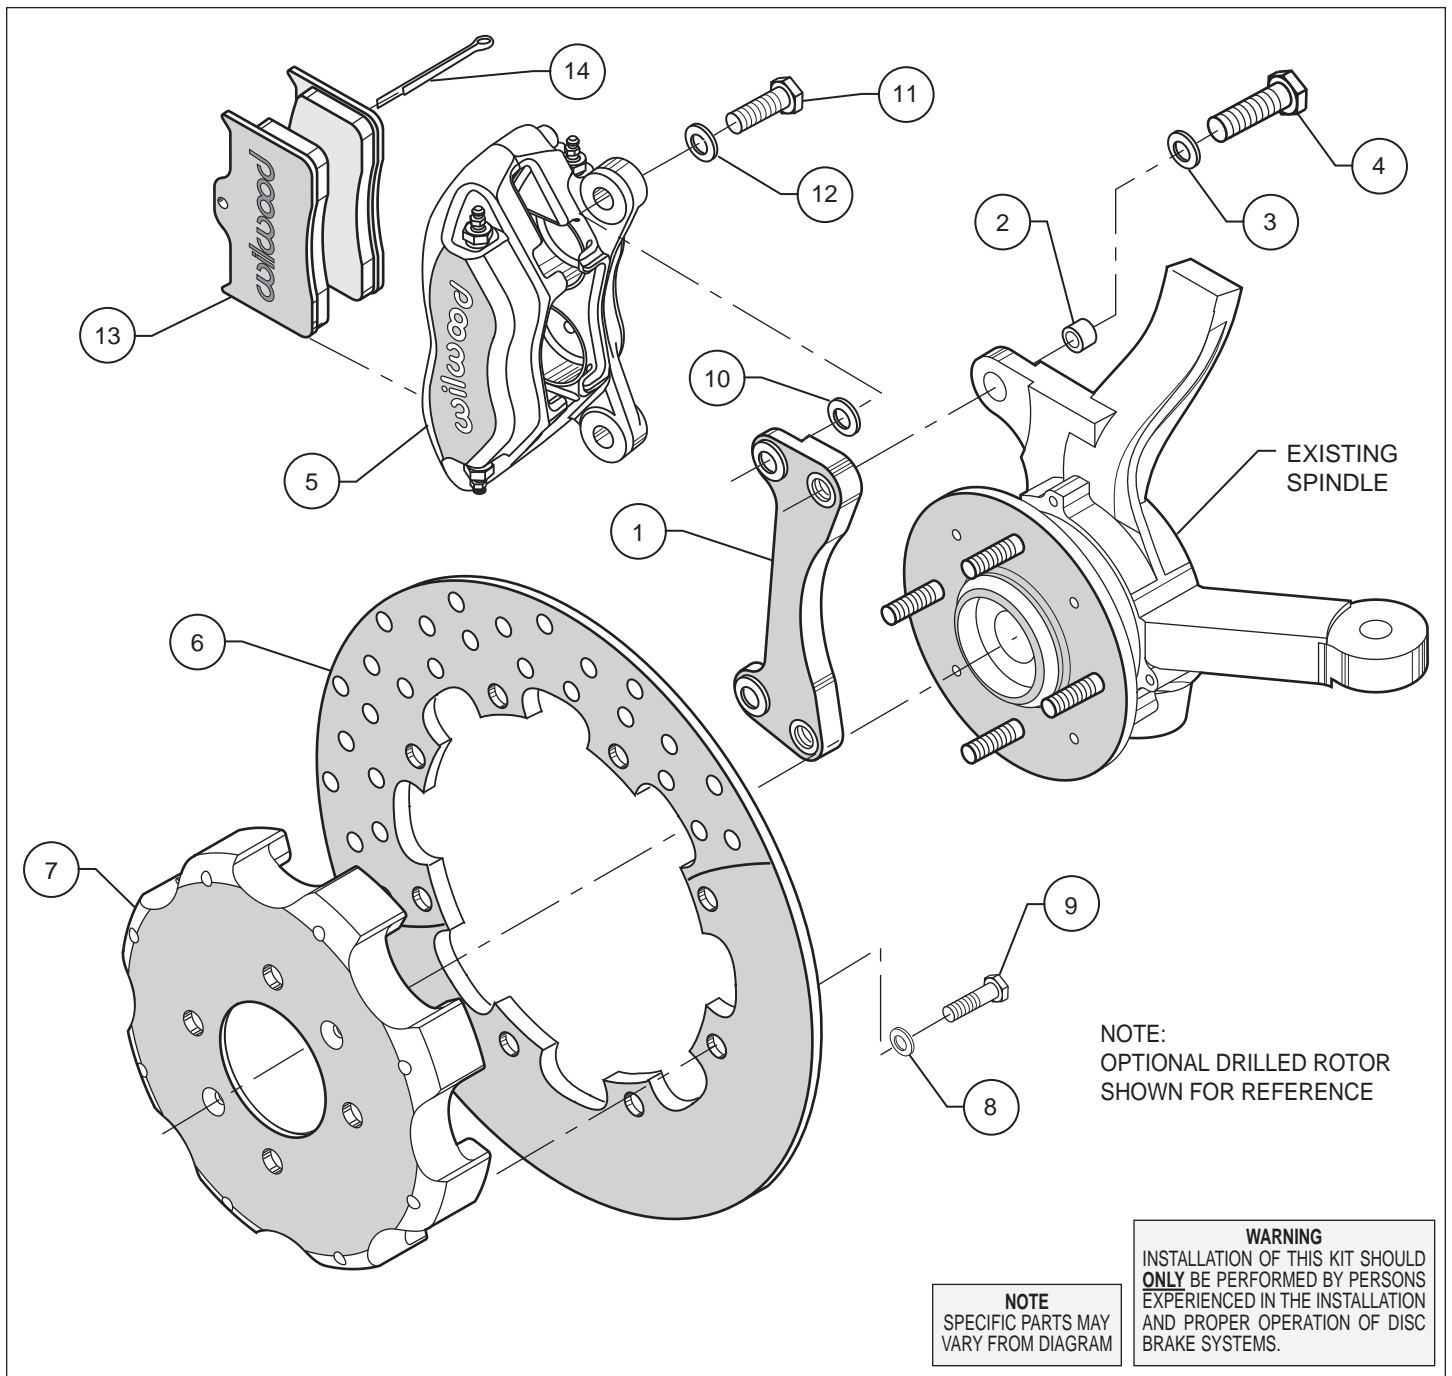
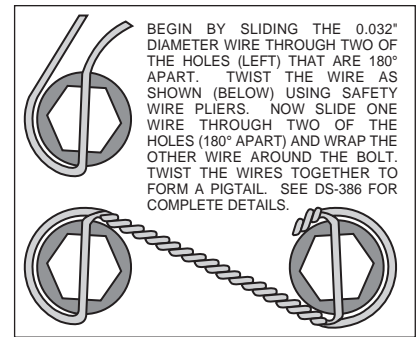

Figure 3. Typical Installation Configuration, Left Hand Application Shown
Figure 4. Safety Wire Diagram
- Insert one sleeve (2) each into the holes on the top and bottom of the spindle “ears” where the OEM caliper bracket was removed. Apply red *Loctite*® 271 to the caliper mounting bracket bolt threads (4) before installation of the caliper mounting bracket (1). Install the caliper mounting bracket (1) with the threaded inserts and the beveled bolt holes facing the outside of the vehicle. Slide bolt (4) through washer (3) into the previously installed sleeve (2) from the backside of the spindle. Finger tighten. Repeat for the lower mounting hole. Torque bolts to 40 ft-lb. **NOTE:** Be sure the heads of the caliper bracket (1) insert nuts are facing outward toward the wheel.
- Attach the hat (7) to the rotor (6) using washers (8) and bolts (9) as shown in Figure 3. Using an alternating sequence, apply red *Loctite*® 271 to the threads and torque bolts to 25 ft-lb. For an added measure of security, the bolts may be safety wired using standard 0.032 inch diameter stainless steel safety wire as shown in Figure 4. Please refer to Wilwood’s data sheet DS-386 (available at [www.wilwood.com/Pdf/DataSheets/ds386.pdf](http://www.wilwood.com/Pdf/DataSheets/ds386.pdf)) for complete safety wire installation instructions. Slide the rotor/hat assembly onto the spindle. Install three lug nuts (finger tighten) to keep the rotor/hat assembly in place while continuing with the installation.